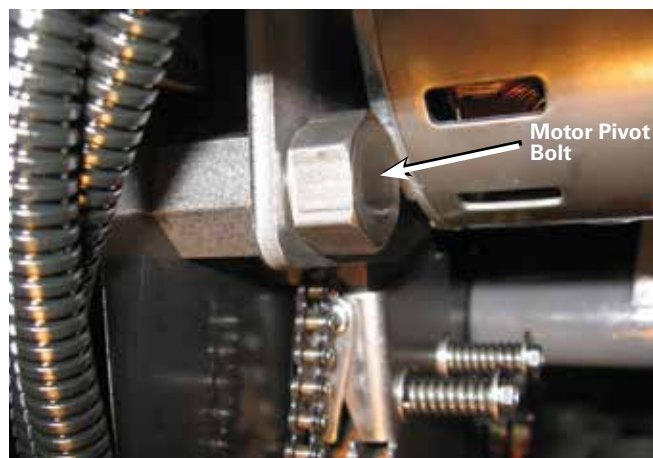
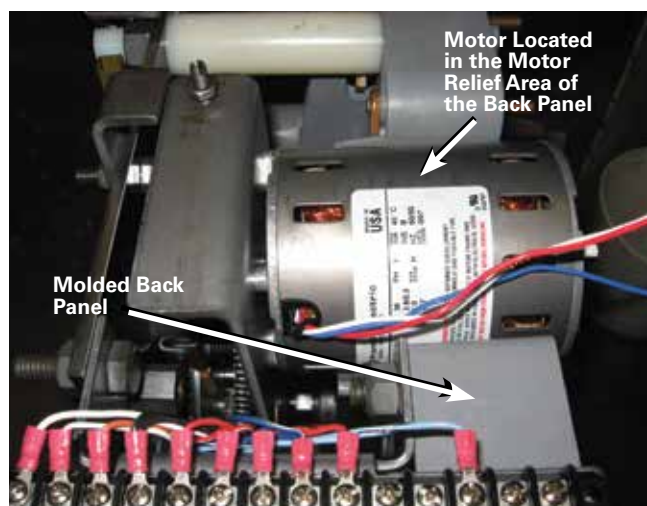

Figure 7. Motor pivot bolt design.
Figure 8. Removal of the motor.
- If the tap-changer has a motor pivot bolt design as shown in Figure 7, remove the motor pivot bolt with a 3/4" socket on a ratchet; make sure the fiber washer does not fall off the motor pivot bolt and into the tank. Set the motor in the motor relief area of the molded back panel. Refer to Figure 8.